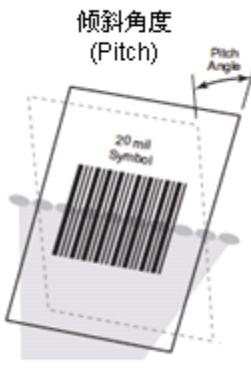

Fig. 1-13
- ✧ Pitch: $\pm 55^\circ$, 0° Roll and 0° Skew (Fig. 1-13)